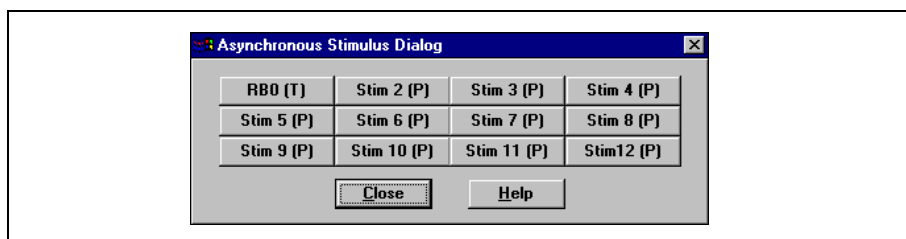

Figure 2.10: Asynchronous Stimulus Dialog – RB0(T)
Put the cursor over “RB0” and double-click. The Asynchronous Stimulus dialog should now look like Figure 2.10. Note that the button now shows “RB0 (T).”